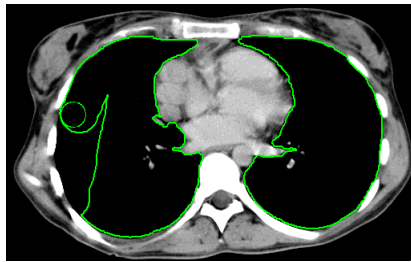

Figure 252 – Adding an area to a contour using the Brush drawing tool
5. To add/remove a contour, press and hold down the left mouse button and move the brush cursor to create the desired shape (see Figure 252).